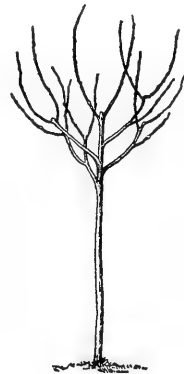

Fig. 82.—Shows the branches subdivided.
9. Sometimes trees are planted that have two or more pruned limbs, which subdivide and several shoots are grown on each limb at the end of the first season's growth. Fig. 82.